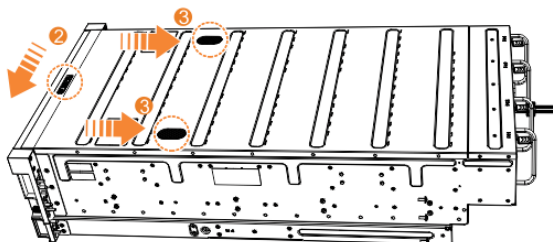

Figure 148. Replacing the top cover
7. Push the cover release lever to the side (2) as shown in Figure 148 on page 183.
8. Slide the cover towards the back of the enclosure (3) back until it stops, as shown in Figure 148 on page 183.